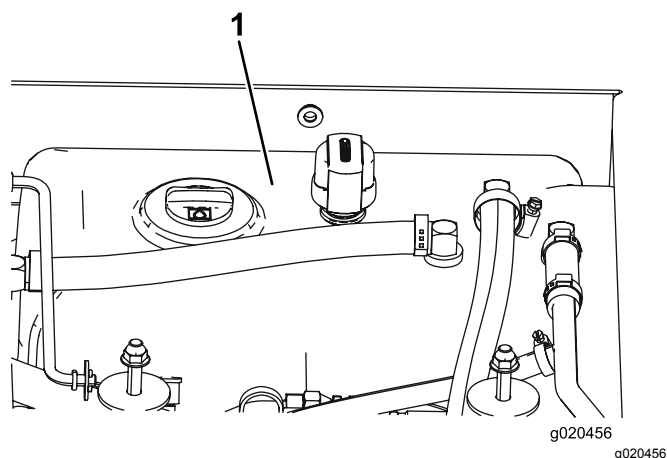

Figure 105
4. Fill the reservoir (Figure 105) with hydraulic fluid; refer to Checking the Hydraulic Fluid (page 71).